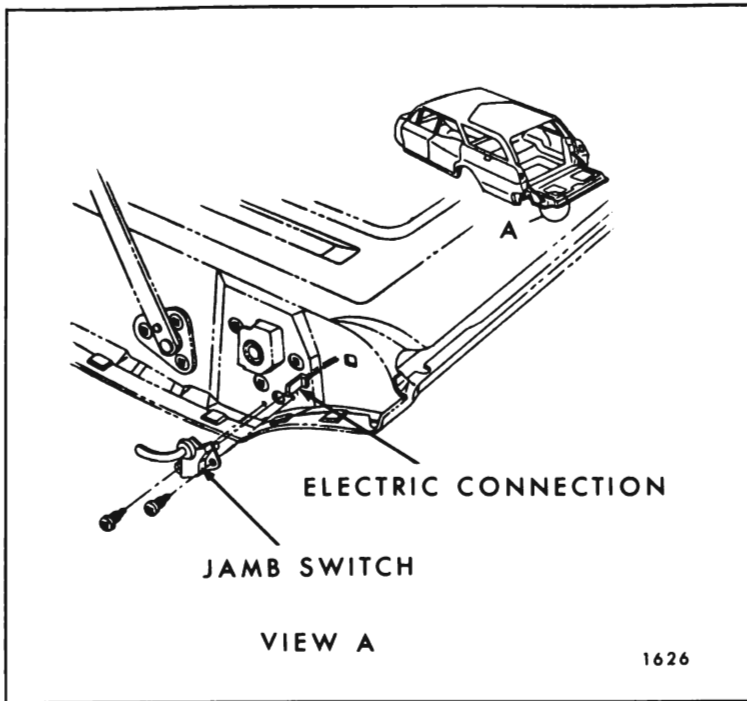

Fig. 9-40—Tail Gate Jamb Switch
1. Remove screws securing jamb switch to tail gate and remove switch. (See Fig. 9-40.)
NOTE: Figure 9-40 illustrates the jamb switch on a "B" Body but is indicative of all styles.